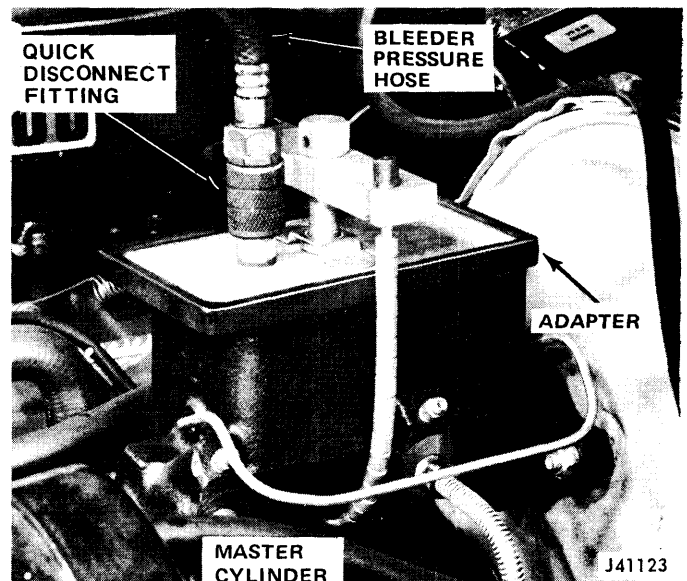

Fig. 9-12 Pressure Bleeder Adapter Installation (Typical)
- (1) Clean any accumulated dirt from master cylinder cover.
- (2) Remove cover and rubber diaphragm seal. Place cover on work bench or on lint-free cloth. Do not allow diaphragm to contact dirt or foreign material.
- (3) Fill master cylinder if required.
- (4) Install brake bleeder adapter cover on master cylinder (fig. 9-12). Connect hose from pressure bleeder to fitting on adapter and open release valve on pressure bleeder.